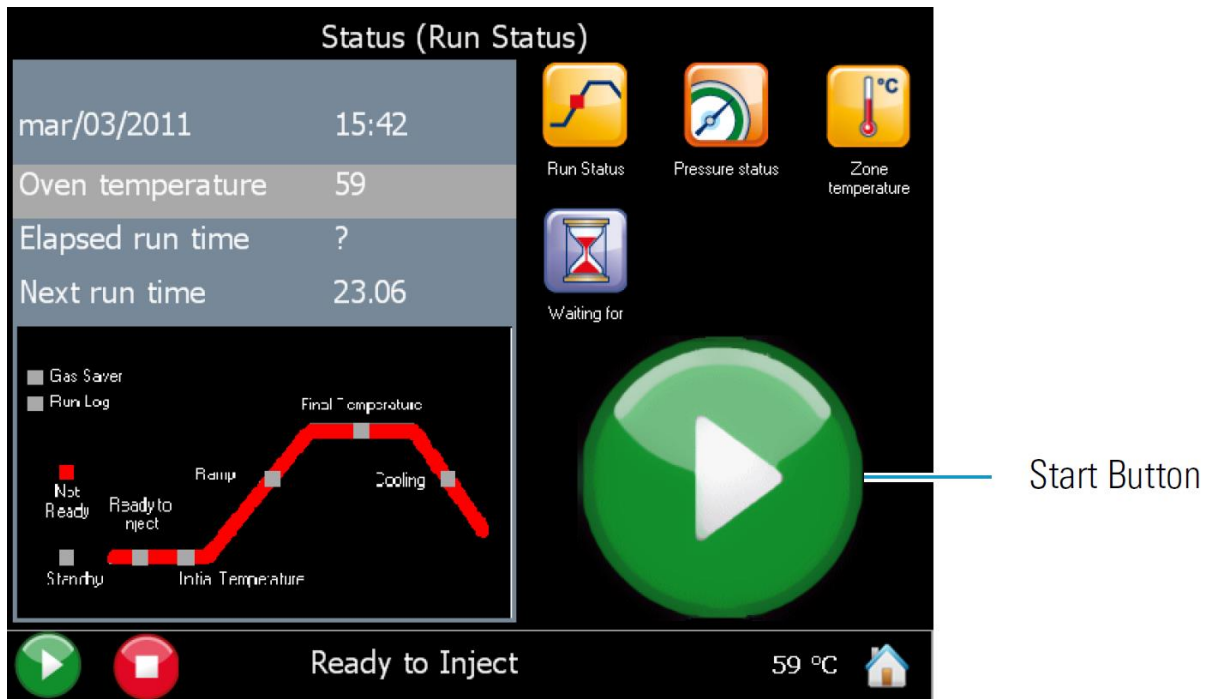

Figure 4. GC Thermo Trace 1310 Status screen. Wait until the oven is “Ready to Inject” and press the start button to begin the column blank.
4.2.3 From the Thermo Trace 1310 interface, press “Status” in the main menu interface. Wait until the oven has reached the correct temperature. The green Start Button will appear (Figure 4) once the GC is ready to inject. Press the Start Button to begin the GC column blank.